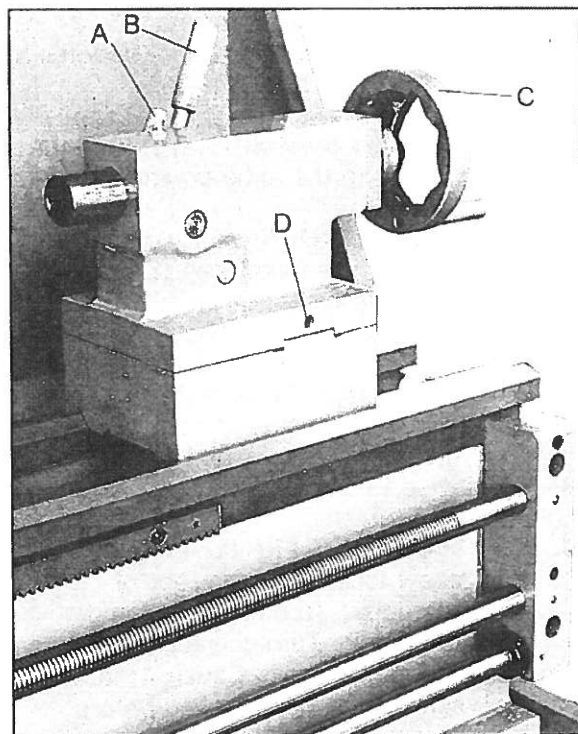

Fig. 13
18. **Tailstock Quill Clamping Lever (A, Fig. 13)** – located on the tailstock. Lift up to lock the spindle. Push down to unlock.
19. **Tailstock Clamping Lever (B, Fig. 13)** – located on the tailstock. Lift up lever to lock. Push down lever to unlock.
20. **Tailstock Quill Traverse Handwheel (C, Fig. 13)** – located on the tailstock. Rotate clockwise to advance the quill. Rotate counter – clockwise to retract the quill.
21. **Tailstock Off – Set Adjustment (D, Fig. 13)** – two set screws located on either side of the tailstock base are used to off – set the tailstock for cutting tapers. Adjust side screws until amount of offset is indicated on scale.